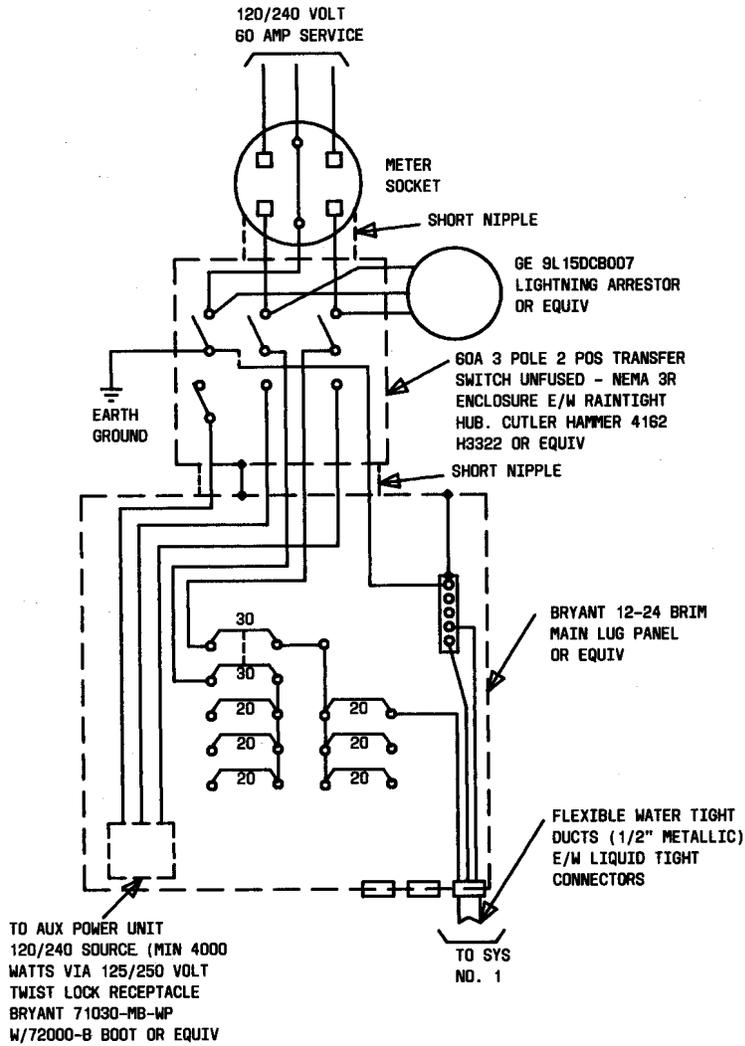

Fig. 28—Providing Auxiliary Power For Three to Six SLC-96 RTs Using Standard Electrical Components
E. Power Configuration No. 3 (Fig. 28) For Three to Six SLC-96 RTs